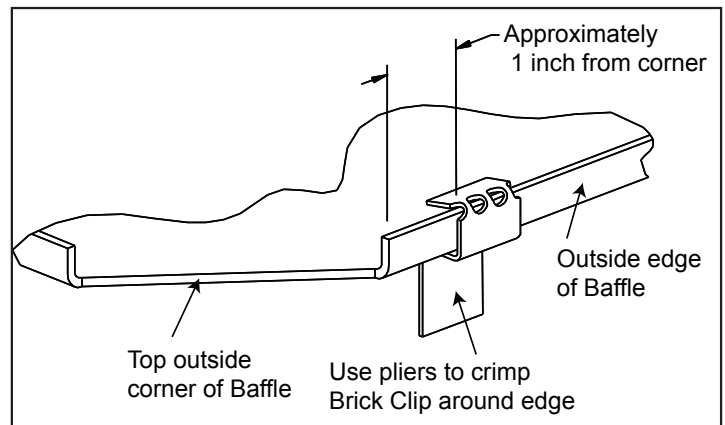
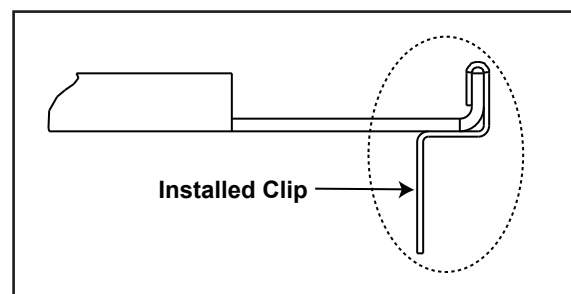

Figure 21.4
Figure 21.5
3. Using pliers, bend the brick clip slightly past 90° in the direction shown in **Figure 21.4**.
4. Position the brick clip as shown in **Figure 21.4** and use pliers to crimp around the outside edge of the baffle as shown in **Figure 21.5**.
- Note:** Figure 21.5 shows the finished shape of the brick clip, after being bent around the outside edge of the baffle.